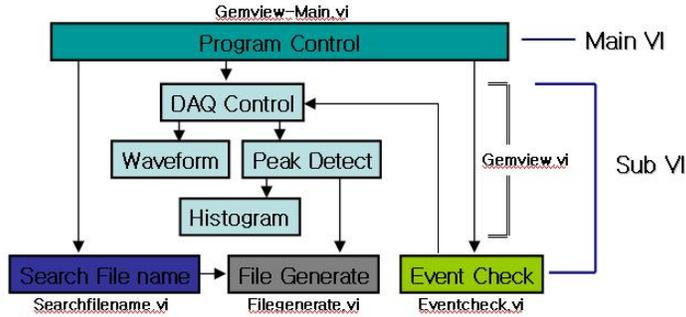

Figure 1 GemView block diagram. GemView consists of one main VI and four sub-VI's which themselves consist of many individual VI's.
GemView consists of one main virtual instrument (VI) and four sub-VI's, as shown in Fig. 1. The four different color codes represent sub-VI's; DAQ card control VI and histograms (light blue), filename search (blue-purple), data recording (grey), and check event (green). These sub-VI's then consists of the following 8 virtual instruments: